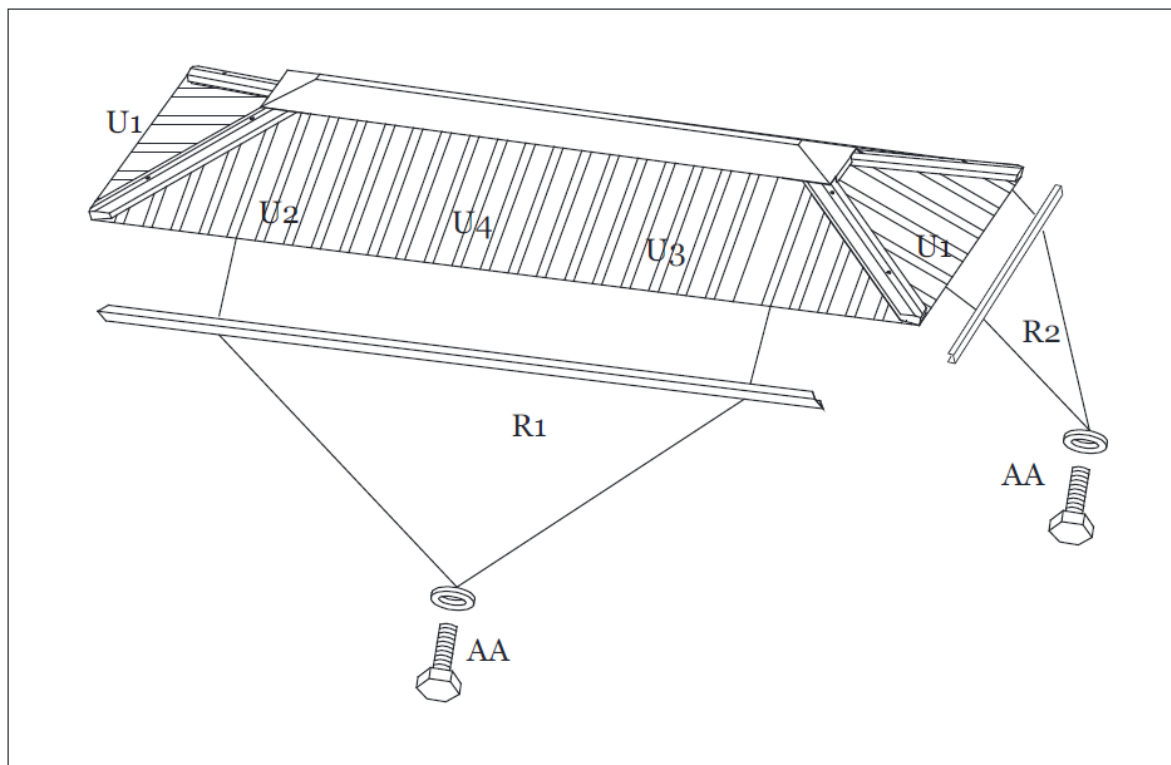

Figure 10-4
Step 10D: Attach the Long Roof Vent Trim (R1) and Short Roof Vent Trim (R2) to the Sides of Roof Vent Frame (P1, P2 and P3) using Bolts (AA). Repeat for all sides. **Tighten all Bolts.** See Figure 10-4.